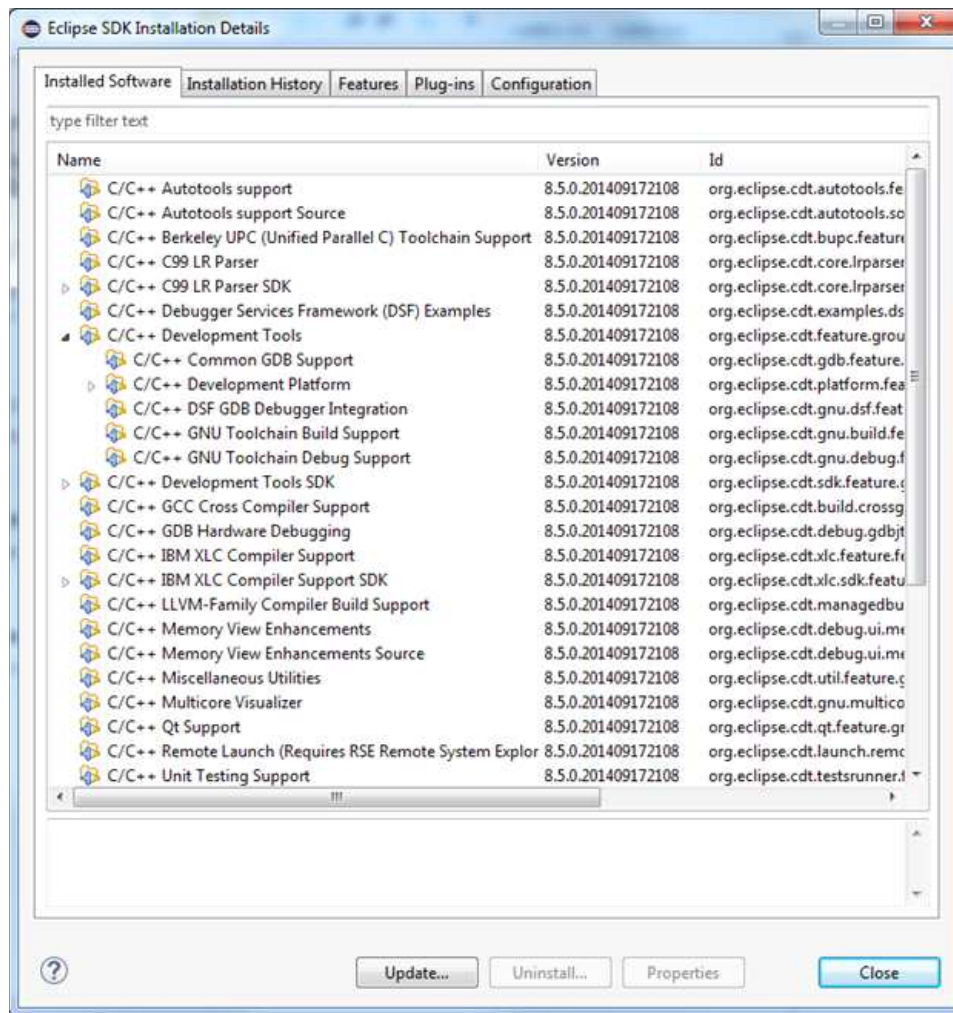

Figure 3. Installation Details
- Verify that the CDT components are correctly installed. Navigate to Help → About Eclipse SDK and click 'Installation Details'. Make sure that the C/C++ Development Platform and the C/C++ GDB Hardware Debugging are both installed (see Figure 3).